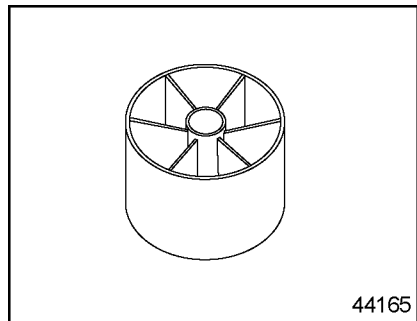

Figure 49 Centrifuge Cartridge
2. Lift out the dirty cartridge and replace it with a clean one (see Figure 49).